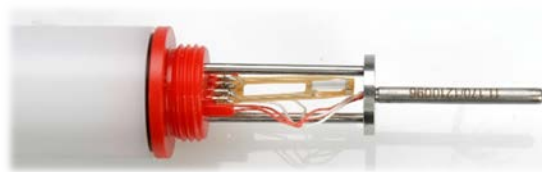

Figure 9: Probe head (filter removed)
2. When placing the filter back on again, take care not to damage or bend the wires of the Pt100 sensor (Figure 9).